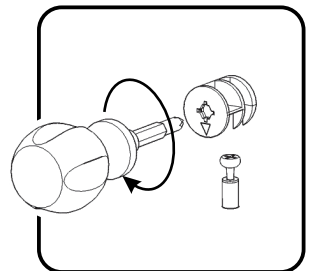

Figure 7
Attach Top (A) to unit with Cam Locks. (See Figure 7)